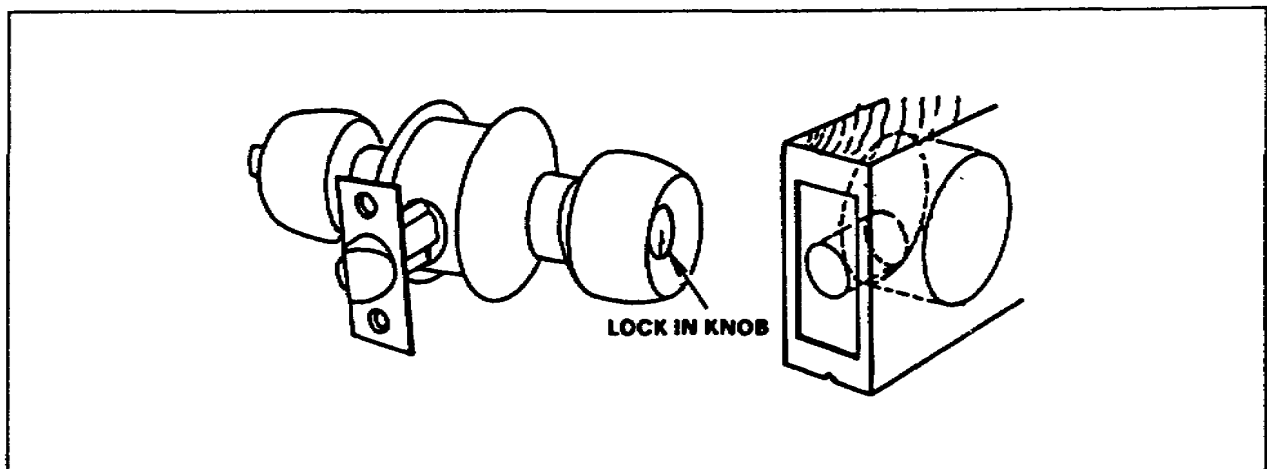

Figure 1-59. Cylindrical lock
b. Cylindrical Locks. Cylindrical locks (Figure 1-59) are basically the same as the tubular type. The cylindrical lock is a sturdy, heavy-duty, and stronger lock, which is used on exterior doors for maximum security.